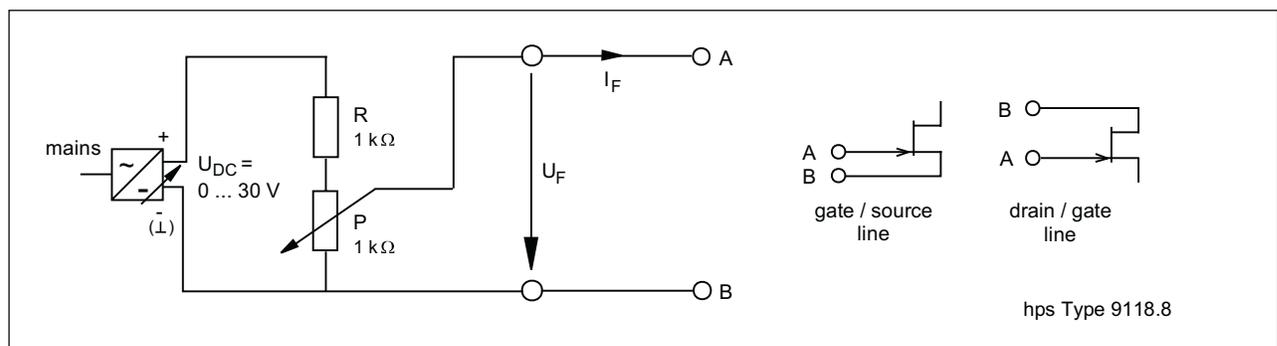

Fig. 5.2.2.1
- Plot a graph showing the on-state characteristics of the p-n junctions  $I_F = f(U_F)$  on the diagram (Fig. 5.2.2.2).
- Set up the circuit according to Fig. 5.2.2.1 (with gate/source line). Set the voltages  $U_F$  consecutively according to Table 5.2.2.1. Measure the corresponding currents  $I_F$  with the multimeter and enter their values in Table 5.2.2.1.